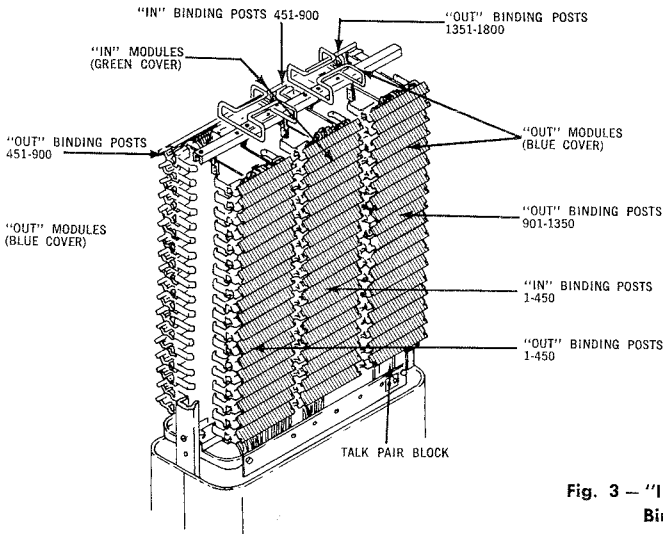

Fig. 3 – "IN" and "OUT" Module Locations and Binding Post Counts
3.03 Connector modules that are equipped with "blue" covers represent the "OUT" or distribution cables and the "Green" covers represent the "IN" or feeder cables. The count of the binding posts is shown in Fig. 3.